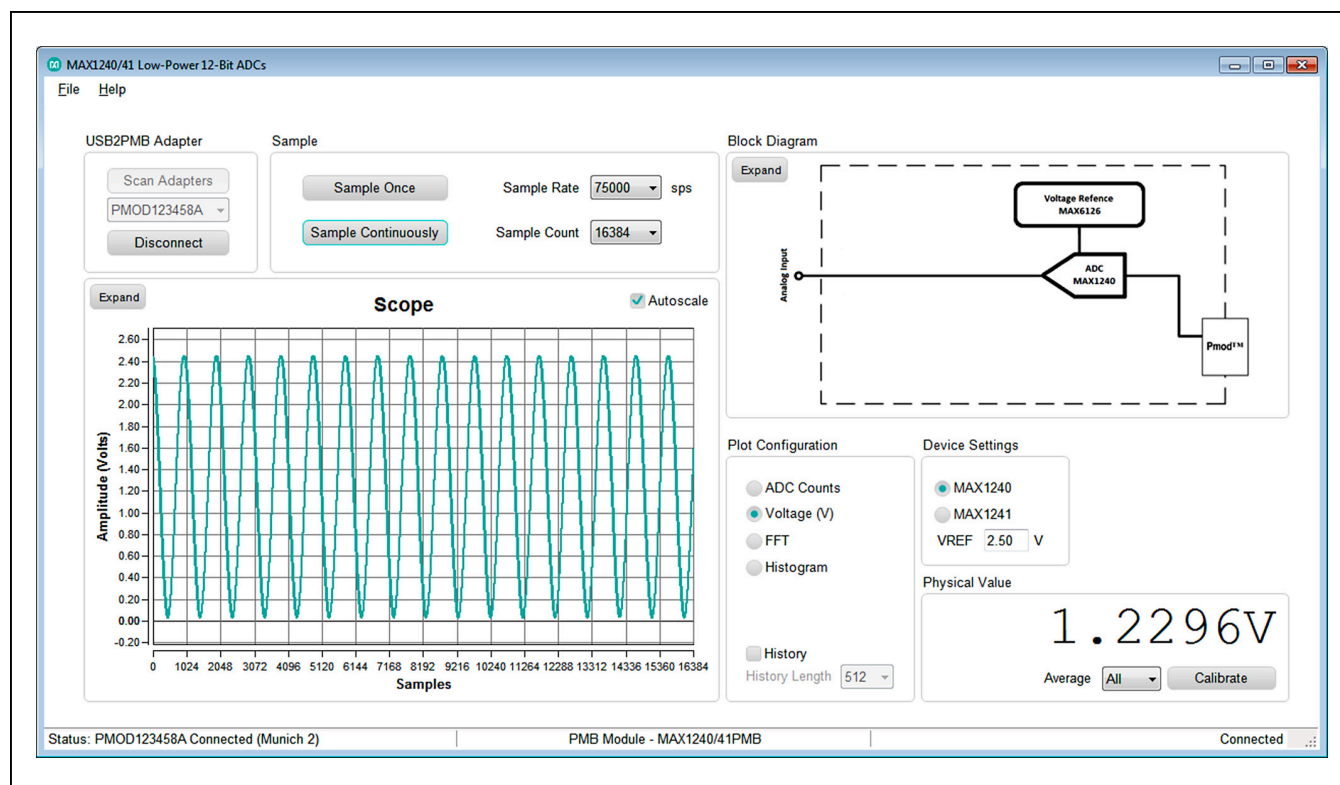

Figure 1. 1240 EV Kit Main Window
- 5) Open the GUI, MAX1240EVMKit.exe (Figure 1).